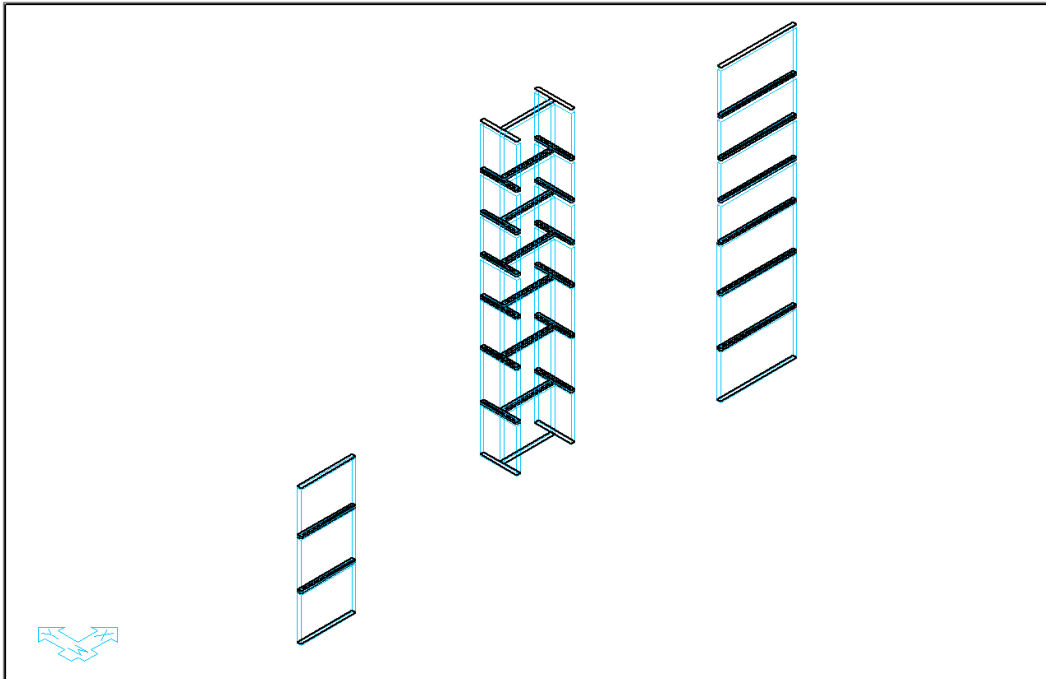

FIGURE 16-3
- Go to *Wall Design* → *Sections* and click on the **Generate Wall Sections**  icon. This step will produce a unique wall section cut at the top and bottom of each wall belonging to the piers. **FIGURE 16-3** shows the section cuts for all piers. Each design section is uniquely identified by the Pier Label → Level ID → Top/Bottom → Wall ID. Note the section cuts will be displayed automatically. To hide the cuts, in the *Results View* panel, go to the *Analysis* tab and select **Wall** → **Design Section Results** → **Outline**.